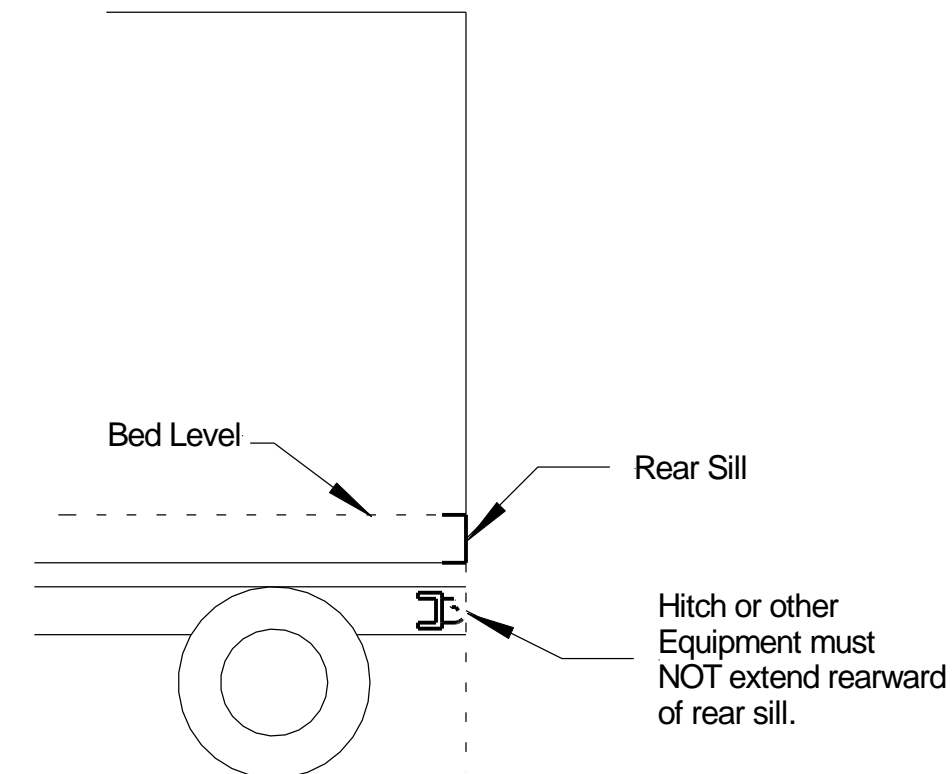

Fig. 3
1. Relocate Hitch (If applicable): Trailer Hitches are common truck or trailer equipment and are compatible with the ILD plus series; however they **must not stick out** further than the rear sill. Relocate or remove tow hitch or other auxiliary equipment (If necessary), **Fig. 3**.